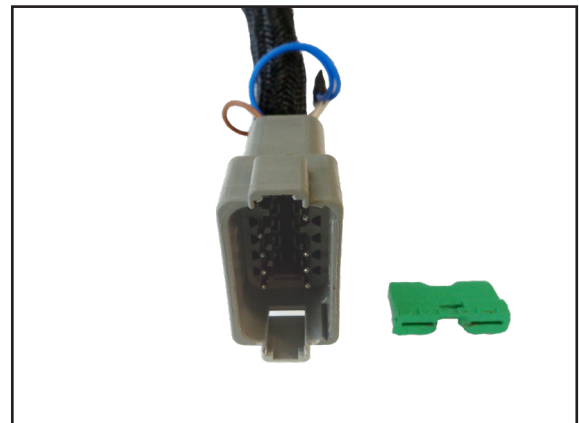

Fig. 39: Removing the X03B terminal
For installation of the ISOBUS InCab socket, the X03B connector plug must be removed. For that purpose, please proceed as follows (see Fig. 39):
- Carefully remove the green secondary lock from the plug. Use a pair of long nose pliers for that (see Fig. 39).